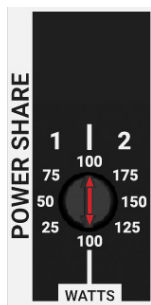

Fig. 3
- **Fig 3** - CLA202 Power Share selections arrow pointer is set to 100W for CH 1 / CH 2